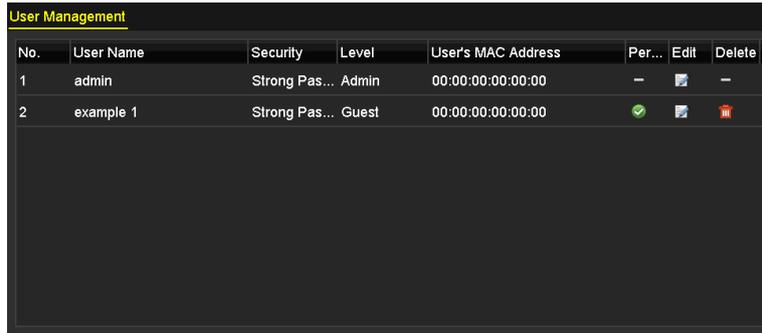

Figure 15-6 Added User Listed in User Management Interface
Step 4 Click the **OK** button to save the settings and go back to the **User Management** interface. The added new user will be displayed on the list, as shown in Figure 15-6.